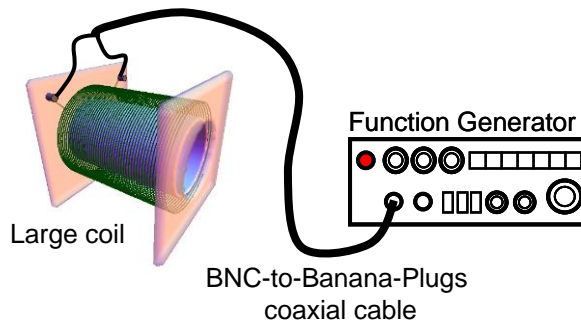

Figure 2: Connections to large coil
- Instead of feeding the function generator signal directly to the oscilloscope, place it across the terminals of the large coil sitting in the wood enclosure on your table as shown in *Figure 2*. You will have to exchange the BNC-to-BNC coaxial cable for a BNC-to-banana-plugs (or alligator clips) coaxial cable.